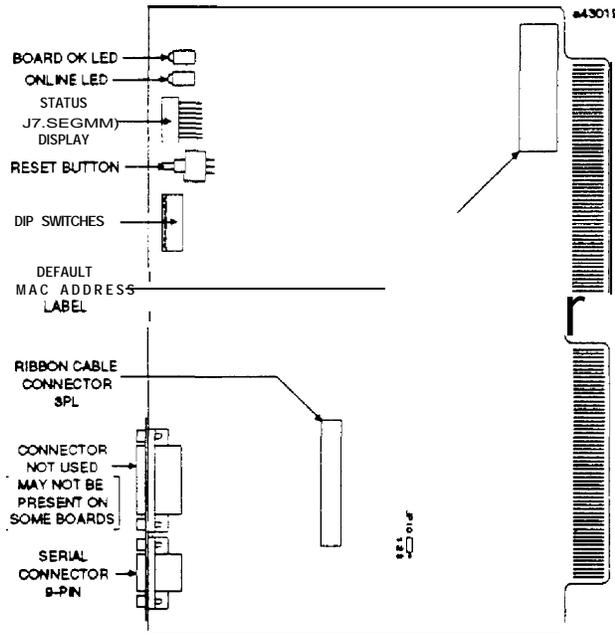

Figure 2. User Items - Controller Board
The digital controller board (see Figure 2) connects the LAN Interface to the backplane of the Series Six Plus PLC, allowing data to flow to and from the Series Six Plus PLC. It contains LAN communication software which is downloaded to the board using GSM.
2. Examine JP10 on controller board (see Figure 2.) and insure that the jumper connects pins 1 and 2.